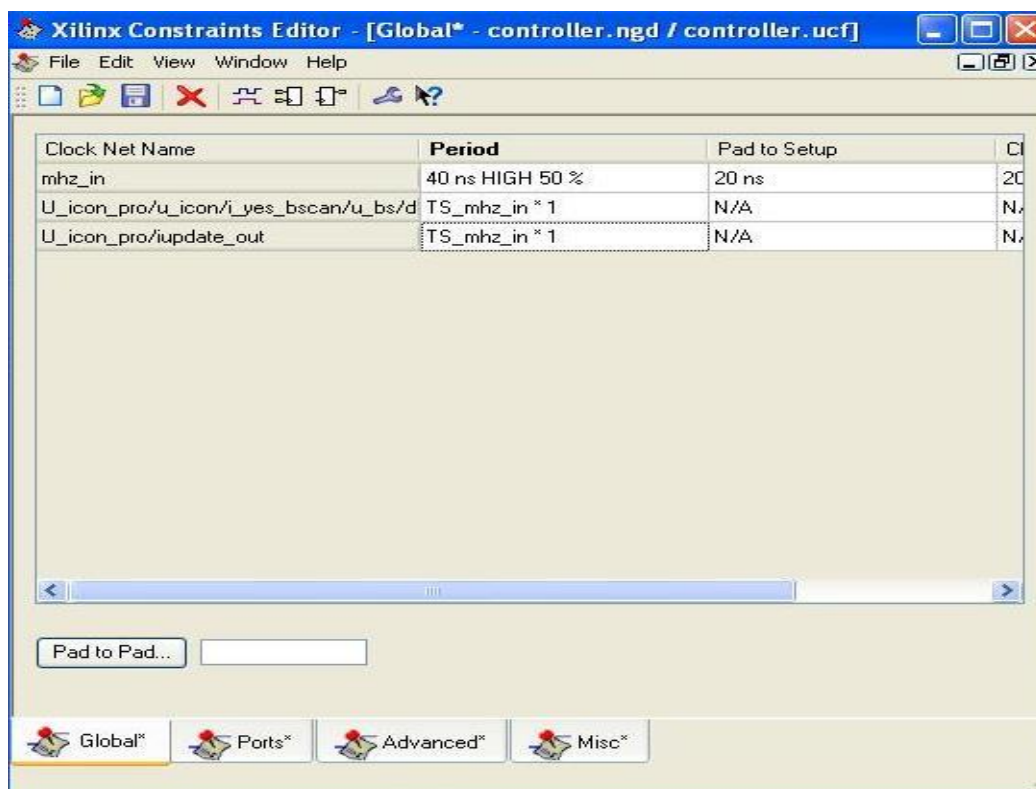

Fig 3.16: Specifying Constraints
4. Select each and every clock present under **Clock Net Name** in the Constraints Editor **Global tab** which can be viewed from Fig 3.16. Give the specified **Period** for each clock periods. Double click the empty **Period** field to specify with some values as in Fig 3.17.